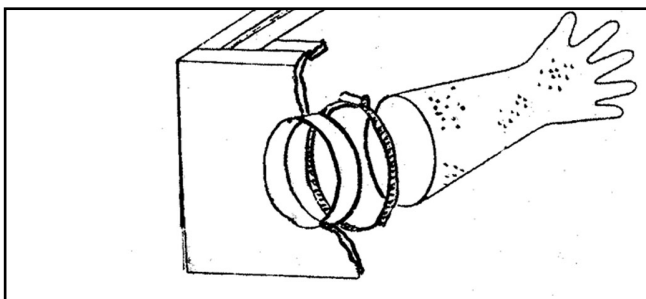

Figure 4. Glove installation.
4. Install the gloves as shown in Figure 4.